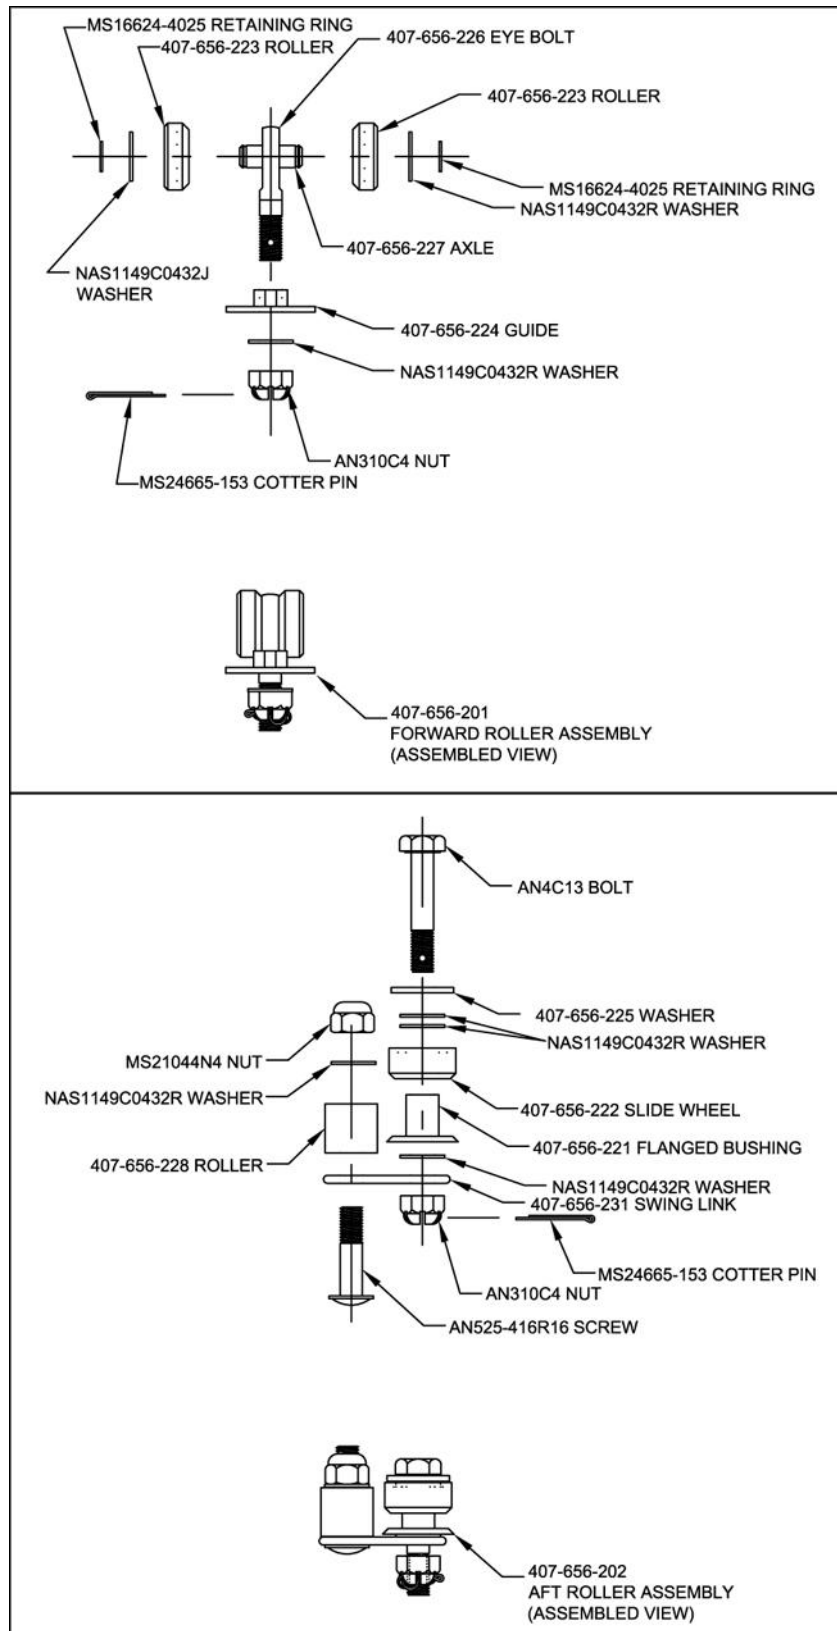

FIGURE 3. ROLLER ASSEMBLIES
- b. Loose Bolt: Roller Assembly bolts should be loose enough to allow the Roller Assemblies to rotate freely in the track during operation. If the Roller Assemblies are found to be excessively loose, check to see if excessive wear has occurred; if so and the door still functions properly then replace the Bolt with the appropriate length and install with cotter pin per Figure 3. _____